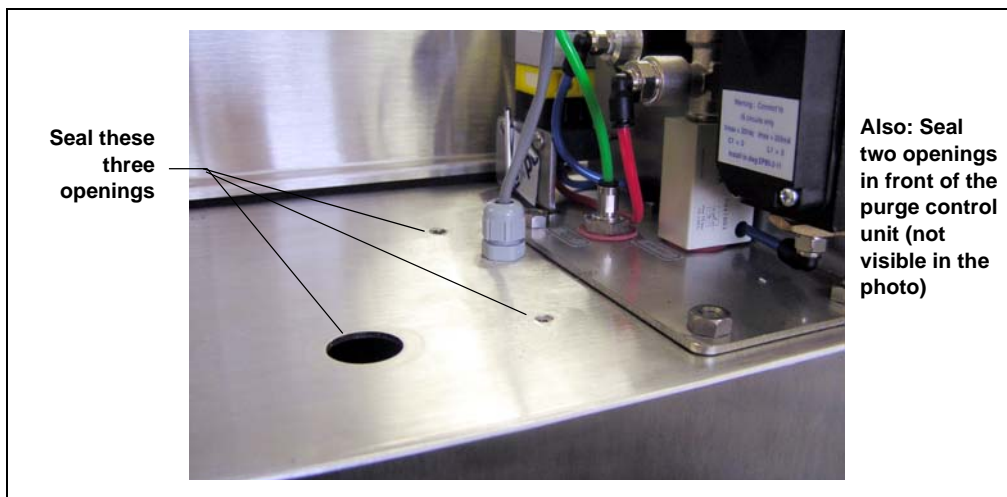

Figure D-12. Openings to Be Sealed on Top of the AE
- On the top of the AE, install screws with seals in the open screw holes (see Figure D-12) and install a gray fitting in the larger round opening. Insert a rod into the top of the gray fitting and tighten the fitting nut.